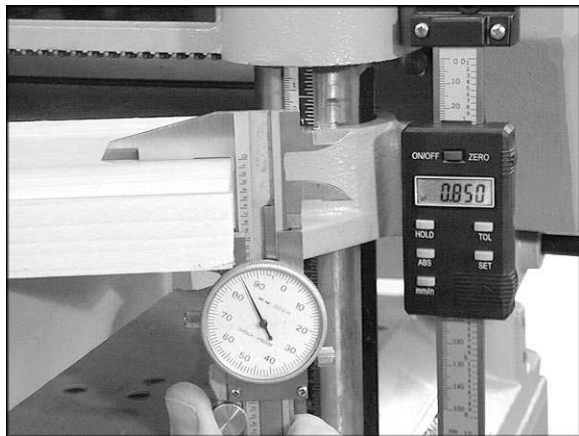

Figure 42
4. Measure the planed board carefully with calipers. (Our example in Fig. 42 shows the calipers reading .850"). This measurement of the finished board is the equivalent of the distance from table to knife.
5. Input the measurement on the calipers into the digital display. Refer to the instructions above involving the SET button function to input this number into your digital display. (Figure 42 shows the .850" measurement now set in the digital display.)